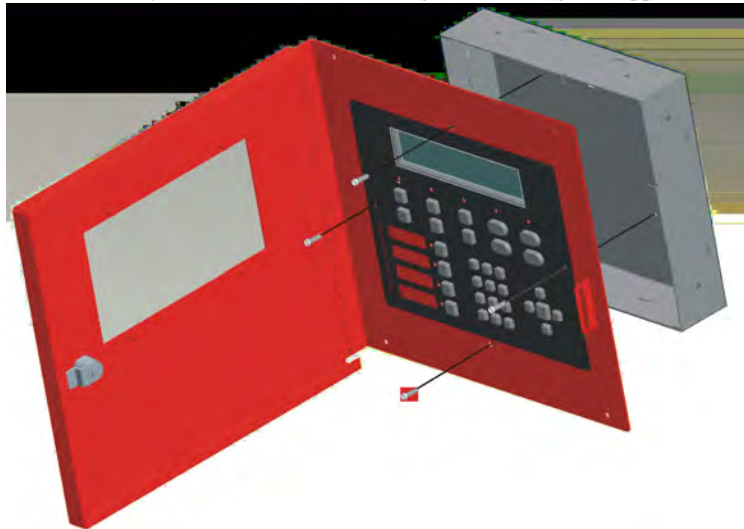

Figure 4.13 Attaching Annunciator / Door Assembly to Backbox
- Attach the annunciator and door assembly to backbox as shown in Figure 4.13 using the supplied screws.
- Attach the annunciator and door assembly to the backbox using screws provided (see Figure 4.13).